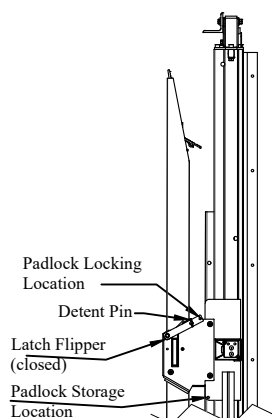

Figure 3: Step 5 & 6.
- Step 5. Unlock and remove the latch padlock. Place the padlock in storage location (Figure 3).
- Step 6. Remove the detent pin from latch flipper (Figure 3).